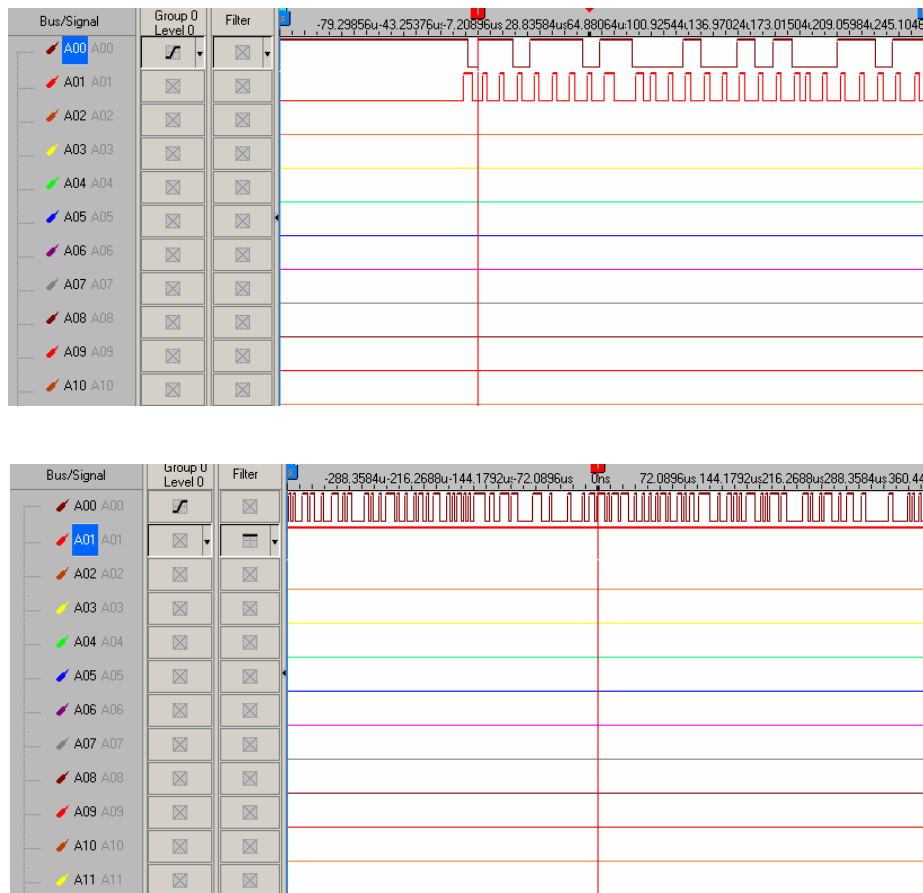

Fig 4-141 – Without/With Signal Filter Setup
1. Click on the **Activate Filter Delay** as shown in Fig 4-141.
6. The result will be displayed in the waveform display area as shown in Fig 4-141.